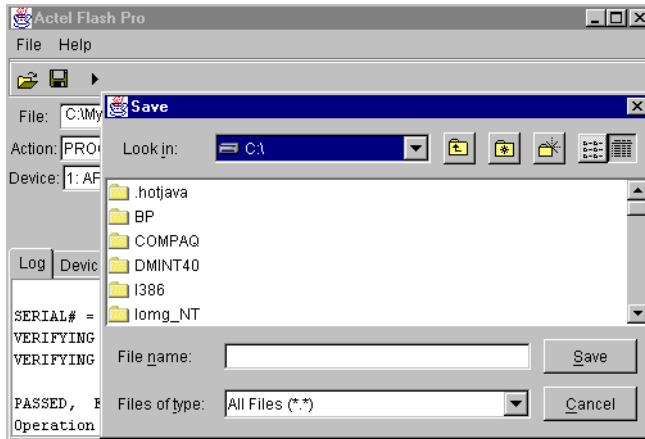

Figure 2-17. Save Dialog Box
1. **From the File menu, click *Save Log*.** The Save dialog appears, as shown in Figure 2-17.